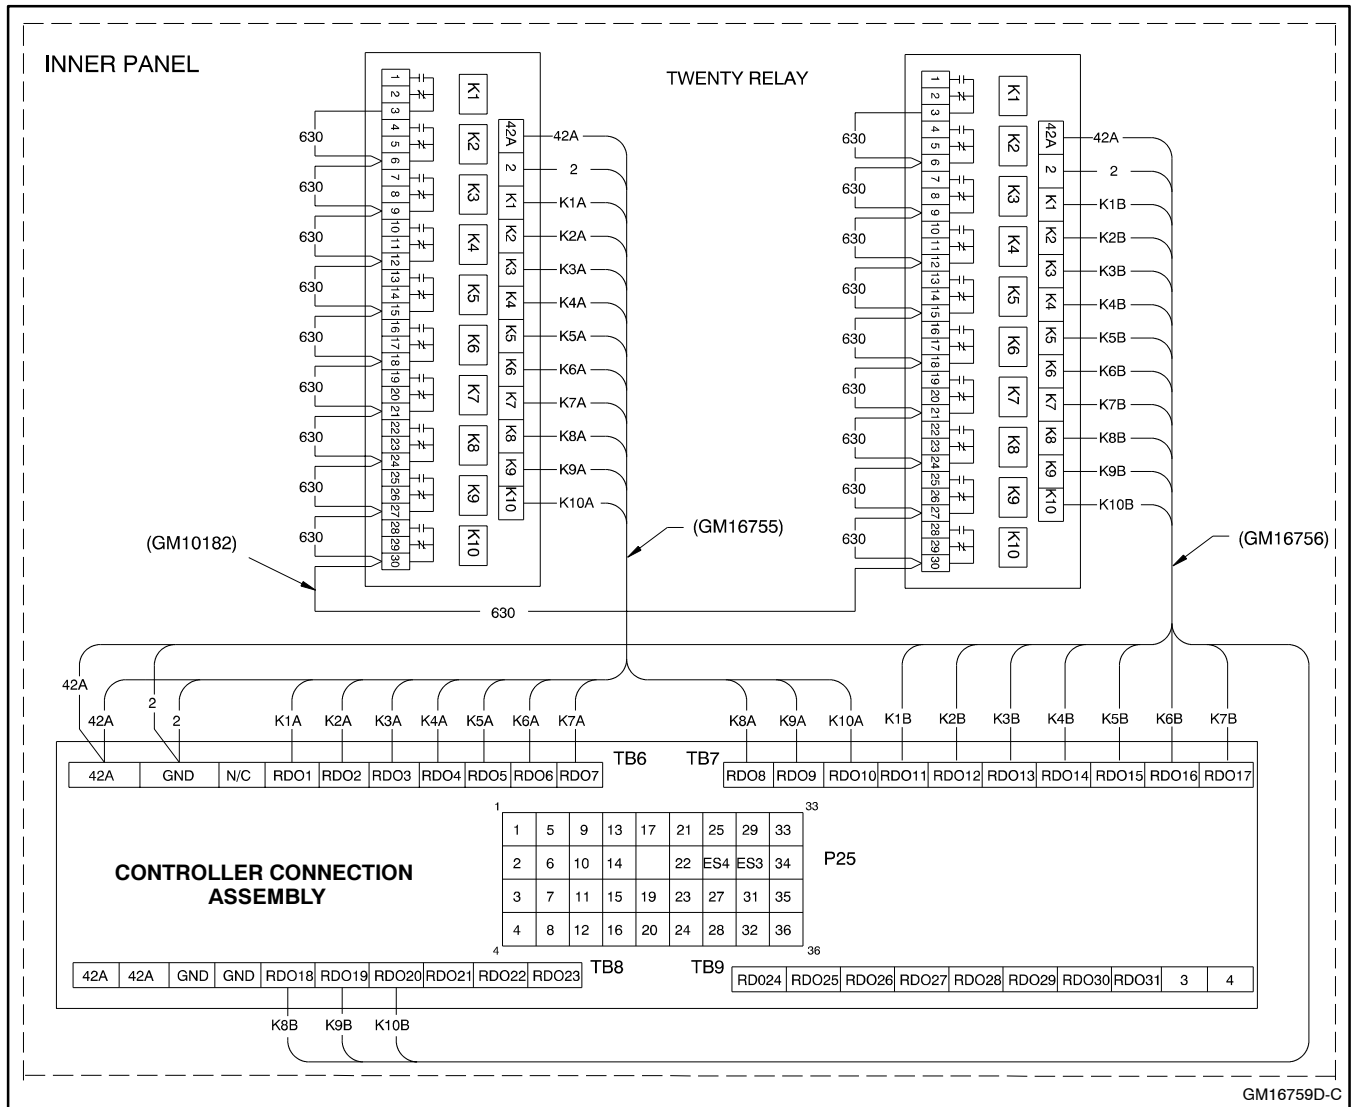
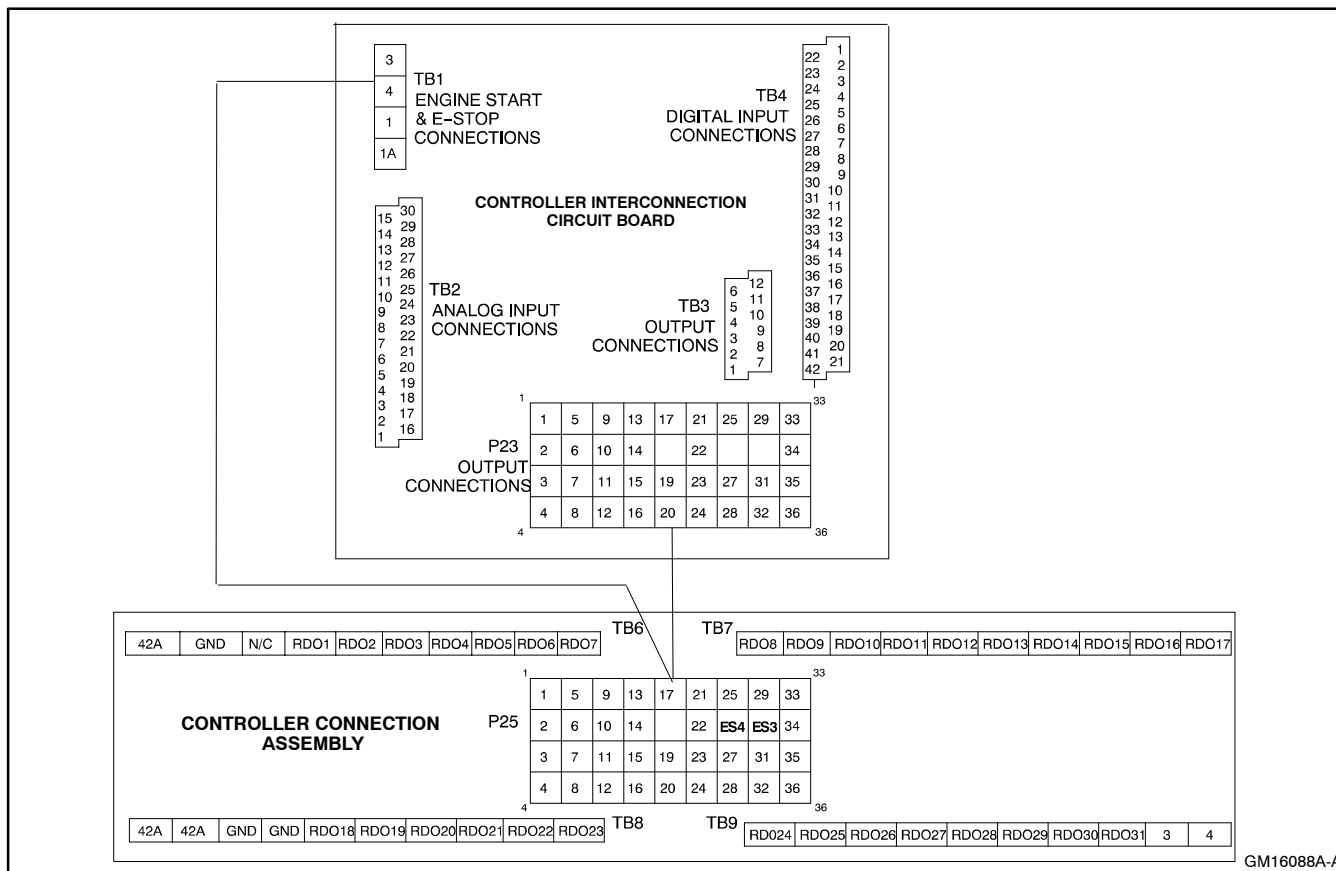

Figure 5 Twenty-Relay Dry Contact Relay Kit Connections
Figure 6 Controller Connection Assembly Terminal Connections
- 4.2 Connect the 12-lead dry contact relay wiring harness (GM16755) to the left side ten-relay dry contact kit relay input terminals. See Figure 5 for connection information.
- 4.3 Connect the 12-lead dry contact relay wiring harness (GM16756) to the right side ten-relay dry contact kit relay input terminals. See Figure 5 for connection information.
- 5.1 Connect the left side ten-relay dry contact wiring harness to the controller connection assembly in the junction box. See Figure 5. Leads 42A and N provide power to the relays. The user can select up to ten fault terminals for connecting the K1-K10 signal leads. See Figure 6 and Figure 7 for terminal connections.
Note: Factory default settings are shown. To customize, select fault terminals using descriptions and terminals shown in Figure 6 and Figure 7.